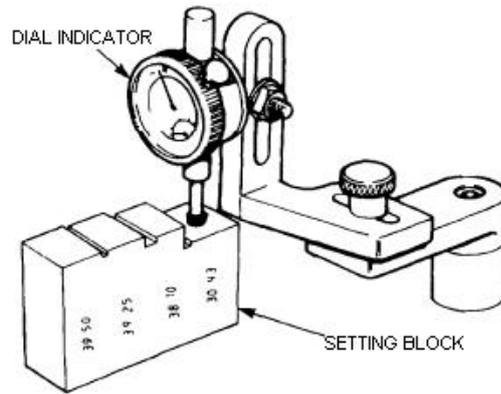

Figure 221 Zeroing the Dial Indicator
- i. Remove the keep-disc from the magnetized base of the dial indicator (Table 3, Serial 57) and place the dial indicator and setting block (Table 3, Serial 63) on a flat surface. Zero the dial indicator stylus to the 30.93 mm setting on the setting block (Figure 221).